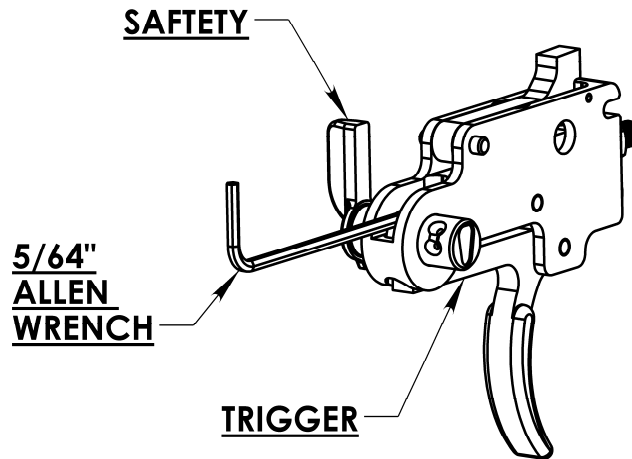

Figure 25. Return sear engagement to factory setting.
1. Insert the safety into the trigger housing. The safety should be oriented so the full diameter of the safety is down. (Figure 25.) Using the 5/64” allen wrench turn the sear engagement screw clockwise until the trigger contacts the bottom of the safety. Then back the screw off slightly and ensure that the safety can still rotate freely in the trigger housing.
1. Loosen the 5/16” jam nut on the trigger weight screw. Using a 1/16” allen wrench turn the screw counter clockwise. The minimum setting on the trigger should not go below 1.5 pounds. This is achieved by approximately one half of a turn on the trigger weight screw. Hold the allen wrench and do not allow the screw to move and tighten the 5/16” nut. (Figure 25.)